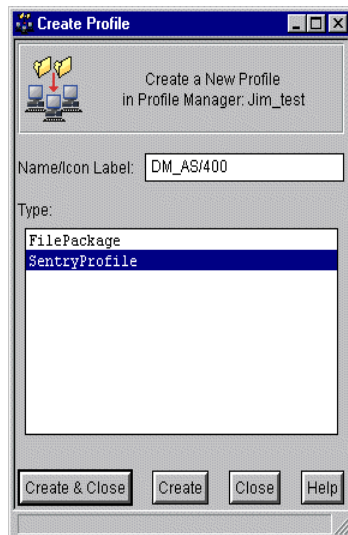

Figure 272. Creating a Distributed Monitoring profile
2. Give the profile a name and select its type as **SentryProfile** as shown in Figure 272 on page 442. Click **Create & Close** when you are finished.